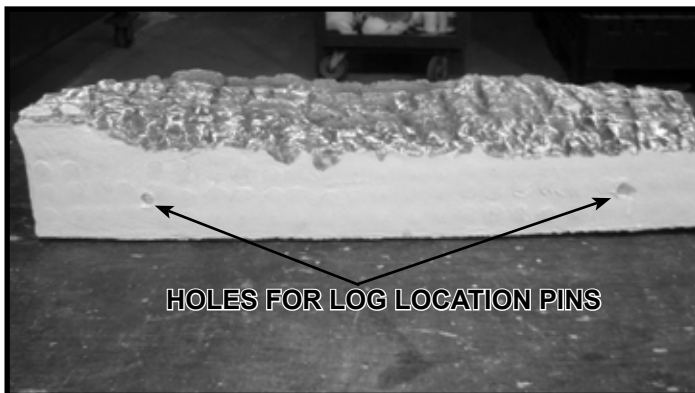
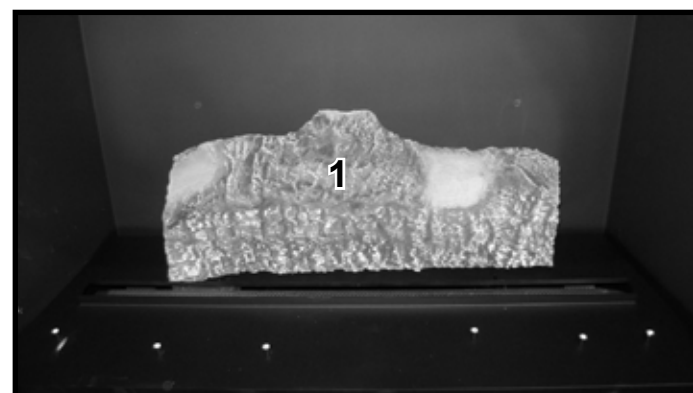

Figure 3. Log #1 - Bottom View
Figure 4. Log #1 in Position
**CAUTION:** Logs are fragile, handle with care. **Log #1 (2298-700):** Place Log #1 into position by holding it upright and placing it onto the pins on the back of the basepan. See Figure 3. Log #1 will sit upright as shown in Figure 4.